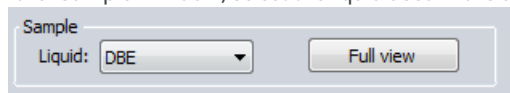

Figure 9. Since our samples are stored in DBE, the cuvette is also filled with DBE.
- 12 In the "Sample" window, select the liquid used in the cuvette from the dropdown menu (Figure 9).